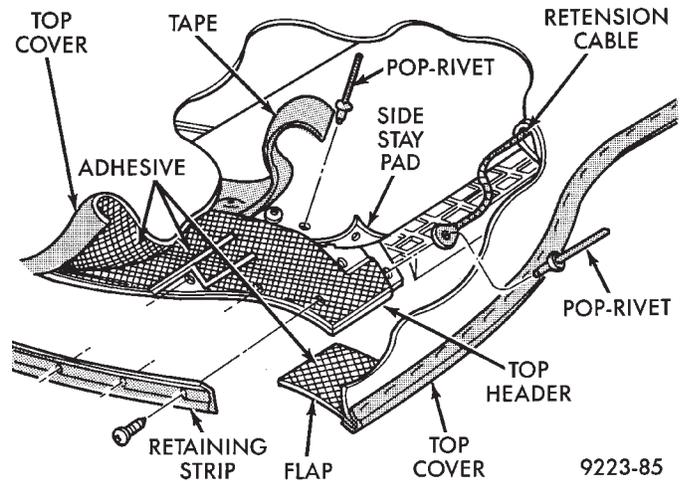

Fig. 6 Stay Pads and Retention Cables
- (1) Lower convertible top and remove top header trim cover.
- (2) Remove screws holding forward top cover retaining strip to top header and separate strip from top.
- (3) Using a heat gun to soften the adhesive, separate the top cover from the top header (Fig. 6).
- (4) Peel top cover back over forward edge of header to gain access to stay pad and retention cable attachment.